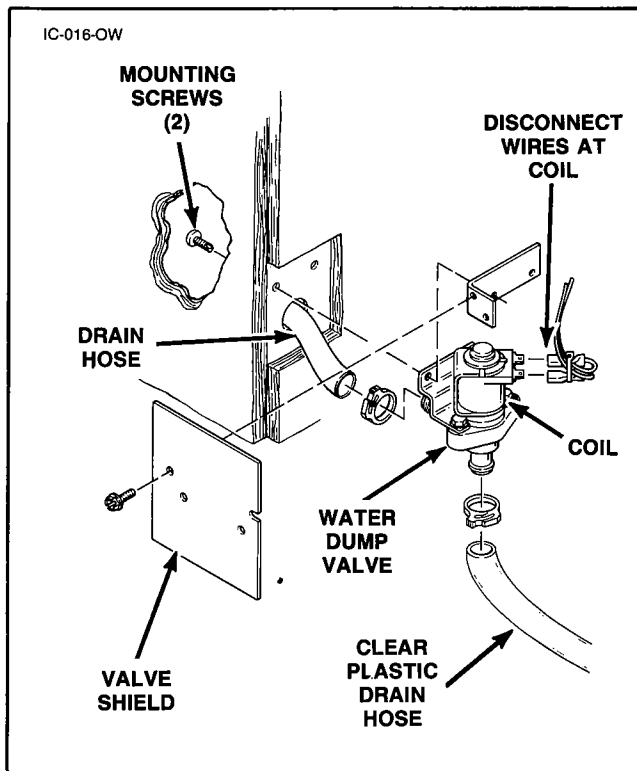

FIGURE 17 WATER DUMP VALVE REMOVAL
3. Check clear plastic outlet drain hose of dump valve, Figure 17, for leakage while the ice machine is in the freeze mode. Dump valve should be open throughout the harvest mode. (If the water flow through the dump valve is restricted during the harvest mode, water will continue to run up to the distribution tube.)
## REMOVE WATER DUMP VALVE (FIGURE 17)